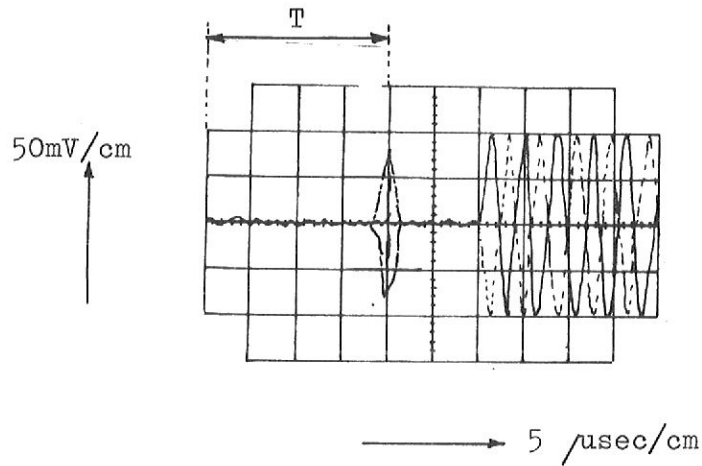

Fig 7-22
- 17) When steps 14 and 16 have a different value, take the average deviation, in such a way that $T = 20,0 \mu\text{sec} \pm 3 \mu\text{sec}$, see fig. 7-22.